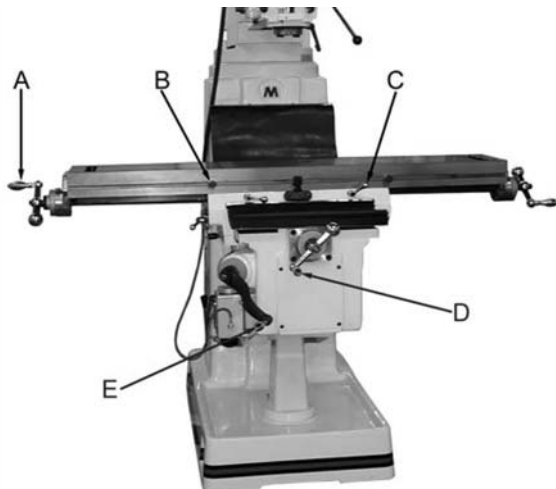

Figure 12: Table movement
Refer to Figure 12.
- A. **Longitudinal Movement** (A, Figure 12) - handles located on opposite ends of table; control the X-axis.
- B. **Stops** (B) - located on front of table; limit how far table travels in either direction.
- C. **Table Locks** (C) - located on front of saddle; used for locking table in position.
- D. **Cross Feed Movement** (D) - located on front of knee; controls the Y-axis.
- E. **Knee Handle (E)** - located on corner of knee; controls the Z-axis.